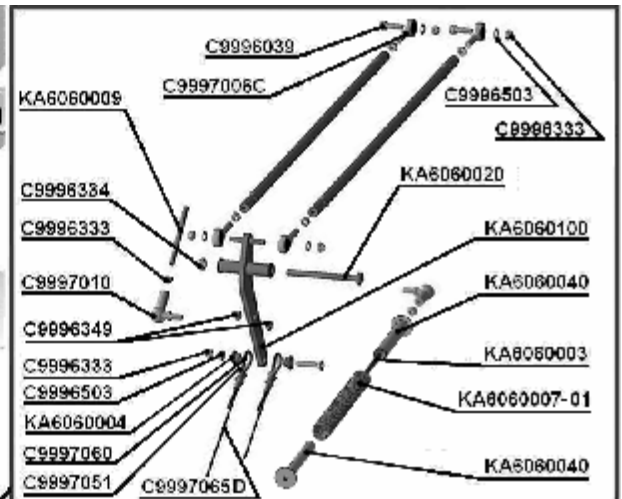

Fig. 1.4
3. Install the bracket KA3010120 with the trim tab bellcrank KA606100 (Rocker), Fig. 1.4, on the fuselage as follows. Match holes in the bracket with holes in the bearings C9997025. Insert the axle KA3010001 through the left hole in the bracket, hole in the left bearing C9997025, spacer KA3010002, right bearing C9997025, and right hole in the bracket KA3010120.
9. Connect trim tab control rods KA6060010 (Rod) with an 8x10 wrench and 4 hex-nut wrench. Tighten the nuts C9996333 (Self-locking nut DIN 985-M5) to torque 49 lb-in (5.5 N\*m) (Fig. 1.4). Make sure that rod tips C9997006C (Rods end bearings, ext. thread GA5) are secured by C9996333 (Self-locking nut DIN 985-M5) to torque 49 lb-in (5.5 N\*m).
11. Connect the rod KA6060003 (Rod) together with the trim tab returning spring KA6060007-01 (Spring), that is attached to the fin wall, and telescopic guide KA6060040 (refer to Fig. 1.4) to the third counting from the bottom hole in the trim tab control bellcrank.